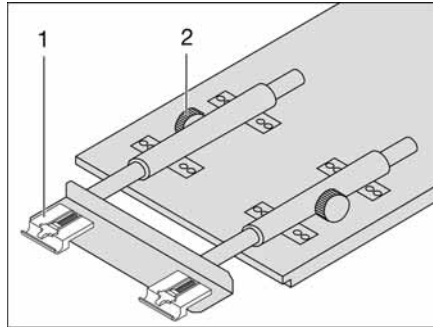

Fig. 89 Extend suspension table
- Undo the knurled screws (Fig. 89,2).
- Lift the table-top slightly and pull out it out as far as possible. The table extension (Fig. 89,1) is fully extended.
- Lift the table-top slightly and push it back as far as possible. The table extension (Fig. 89,1) is fully retracted.